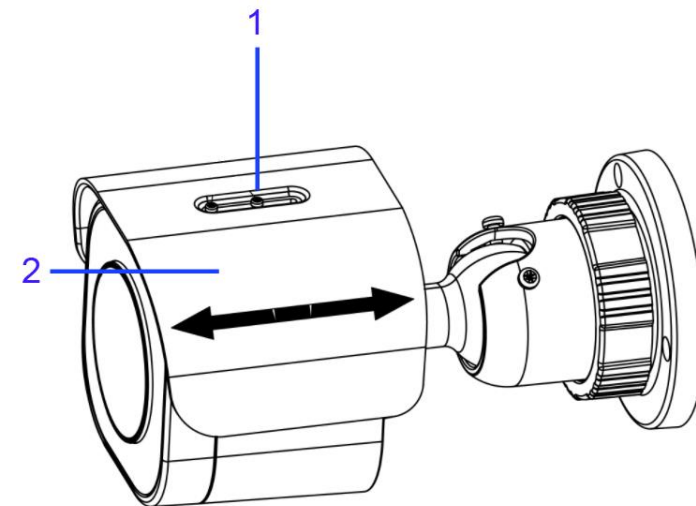

Figure 7
- A. Use the L-Key to loosen the two screws (1) (Figure 7) located on the protection shield hood.
- B. Slide the protection shield (2) (Figure 7) forward or backward until the correct position is found.
- C. Use the L -Key and secure the two screws (1) (Figure 7) located on the protection shield hood.